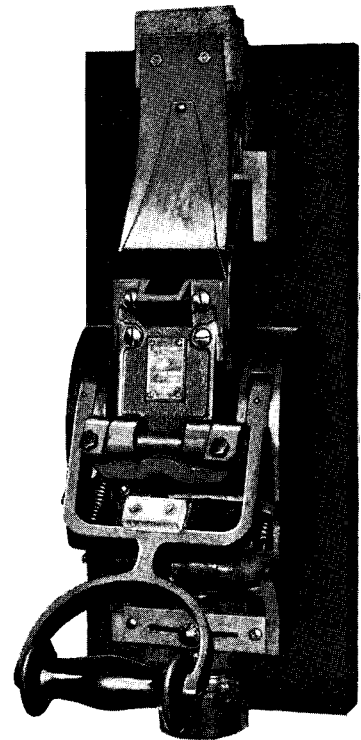

FIG. 7—3000-4000 AMP. D-C., TYPE CL CARBON CIRCUIT-BREAKER WITH INVERSE-TIME-LIMIT OVERLOAD ATTACHMENTS
**Inverse-Time-Limit Attachment (Figure 7)**—The plain overload trip device will trip a circuit-breaker on practically any overload impulse above its setting unless this impulse lasts only an extremely short time. There are times, however, especially in starting a motor, when the tripping of a circuit-breaker on short time overloads is undesirable. For cases of this kind inverse-time-limit attachments are provided.